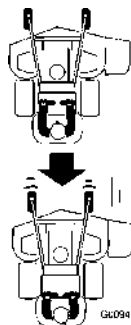

Figure 20
2. Slowly pull the motion-control levers rearward (Figure 20).